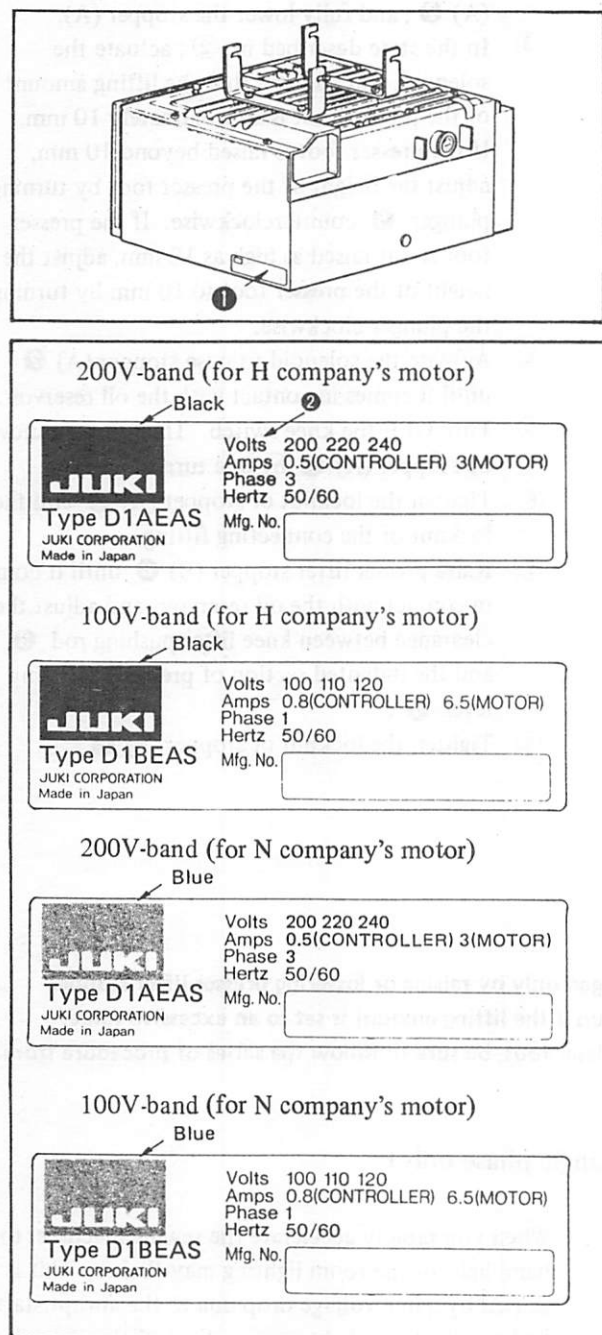

Fig. 4-1
They can be told apart as shown in Fig. 4-1, from the numbers following "Volts ②" on the name plate ① on the side of the PSC box.